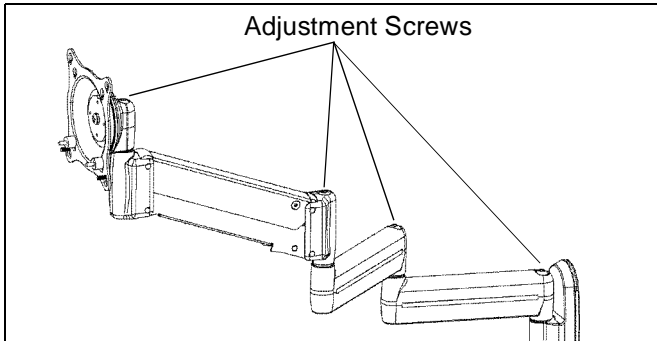

Figure 8:
- Using 3/16" hex key, slightly loosen or tighten the adjustment screw(s) as necessary (See Figure 8).